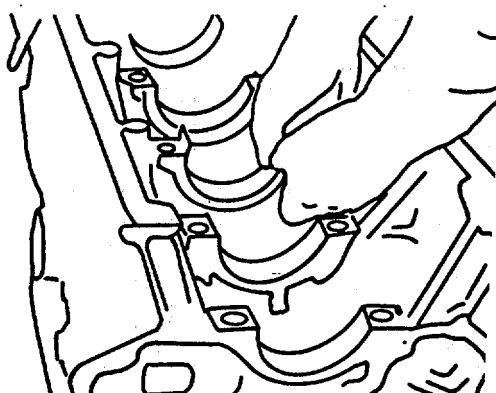
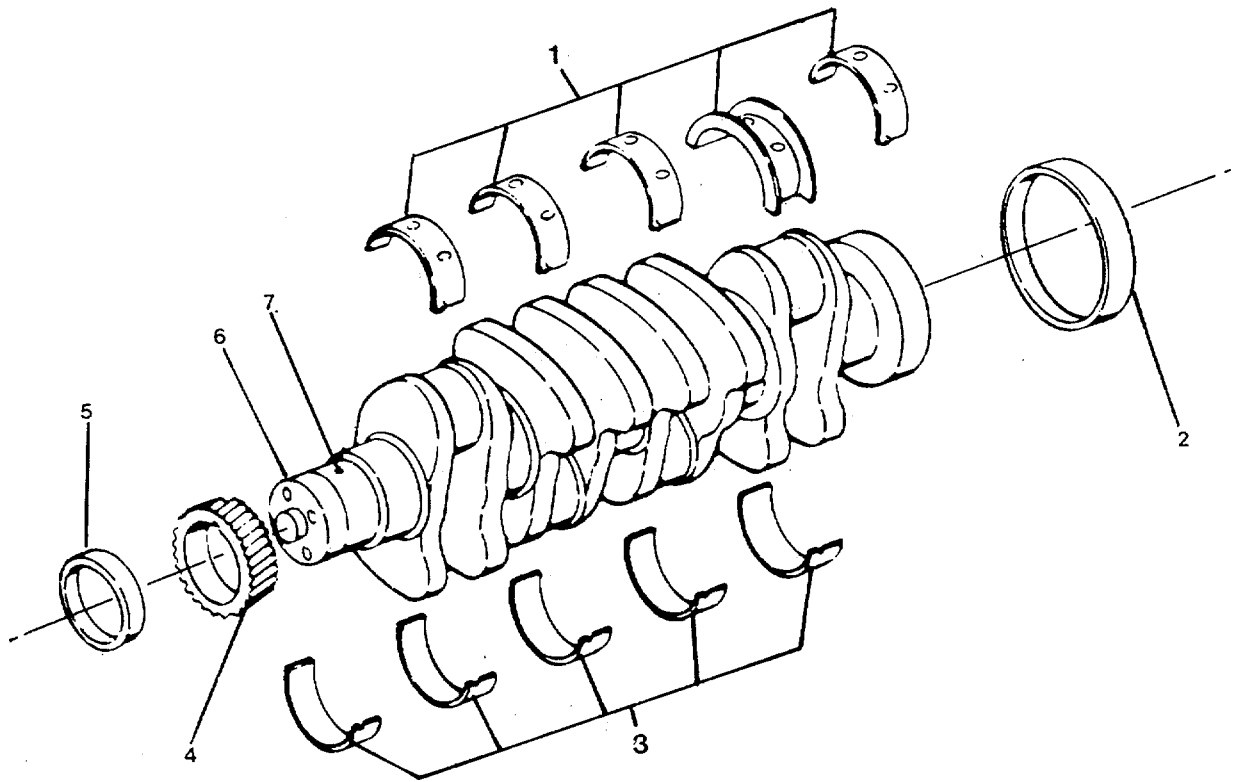

FIGURE 4-59. Removing Sleeve Bearing Half Sets.
FIGURE 4-68. Crankshaft.
- e. Remove the sleeve bearing half sets (1, and 3, FIGURE 4-68) (main bearings) from the block and the main caps as shown in FIGURE 4-59.
- e. Replace straight pin (7, FIGURE 4-68) and bearing sleeves (2 and 5).
- c. Install the sleeve bearing half set (1, FIGURE 4-68) (upper main bearings); being certain to install the combination thrust/main bearing in the second journal from the rear.
- e. Install the crankshaft (6, FIGURE 4-68).